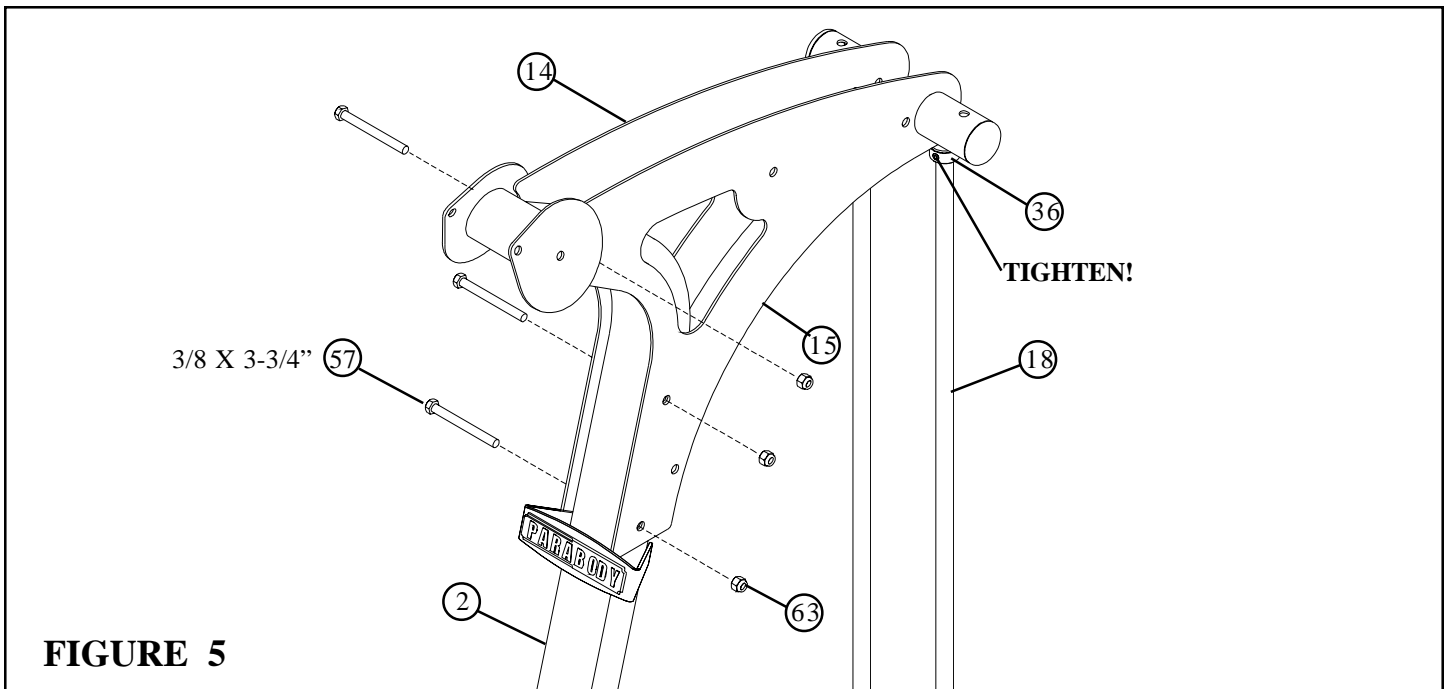

FIGURE 5
- Swing the GUIDE RODS (18) into the guide rod bushings in each of the RIGHT and LEFT BOOM PLATES (14 & 15) as shown in FIGURE 5.
- **LOOSELY** assemble the RIGHT and LEFT BOOM PLATES (14 & 15) to the UPRIGHT (2) using three 3/8 X 3-3/4" BOLTS (57) and three 3/8" LOCK NUTS (63). See FIGURE 5.
- Slide the SHAFT COLLARS (36) to the top of the GUIDE RODS (18) and tighten set screws as shown in FIGURE 5.